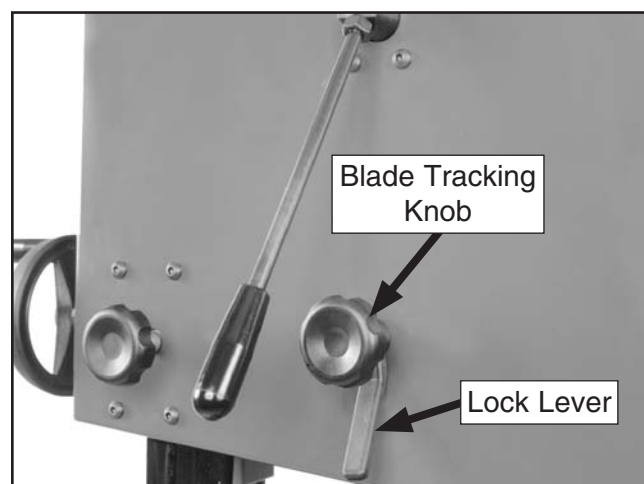

Figure 31. Blade tracking controls.
5. Loosen the lock lever (**Figure 31**) so that the blade tracking knob can rotate.